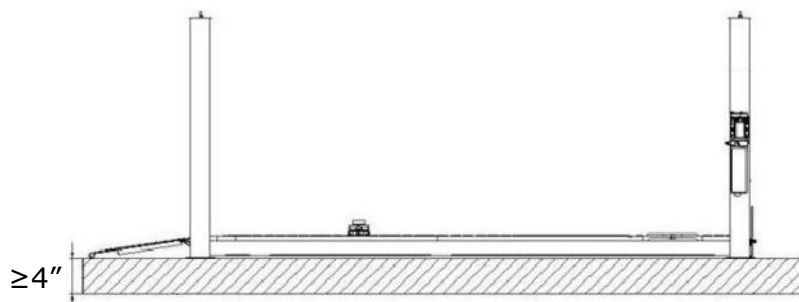

Fig.5
D. SPECIFICATIONS OF CONCRETE (See Fig. 5)